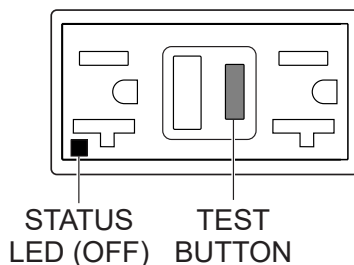

Figure 75. GFCI Receptacle (OFF)
4. Press the **TEST** button (Figure 75) on the GFCI receptacle and verify that the status LED turns **OFF**.